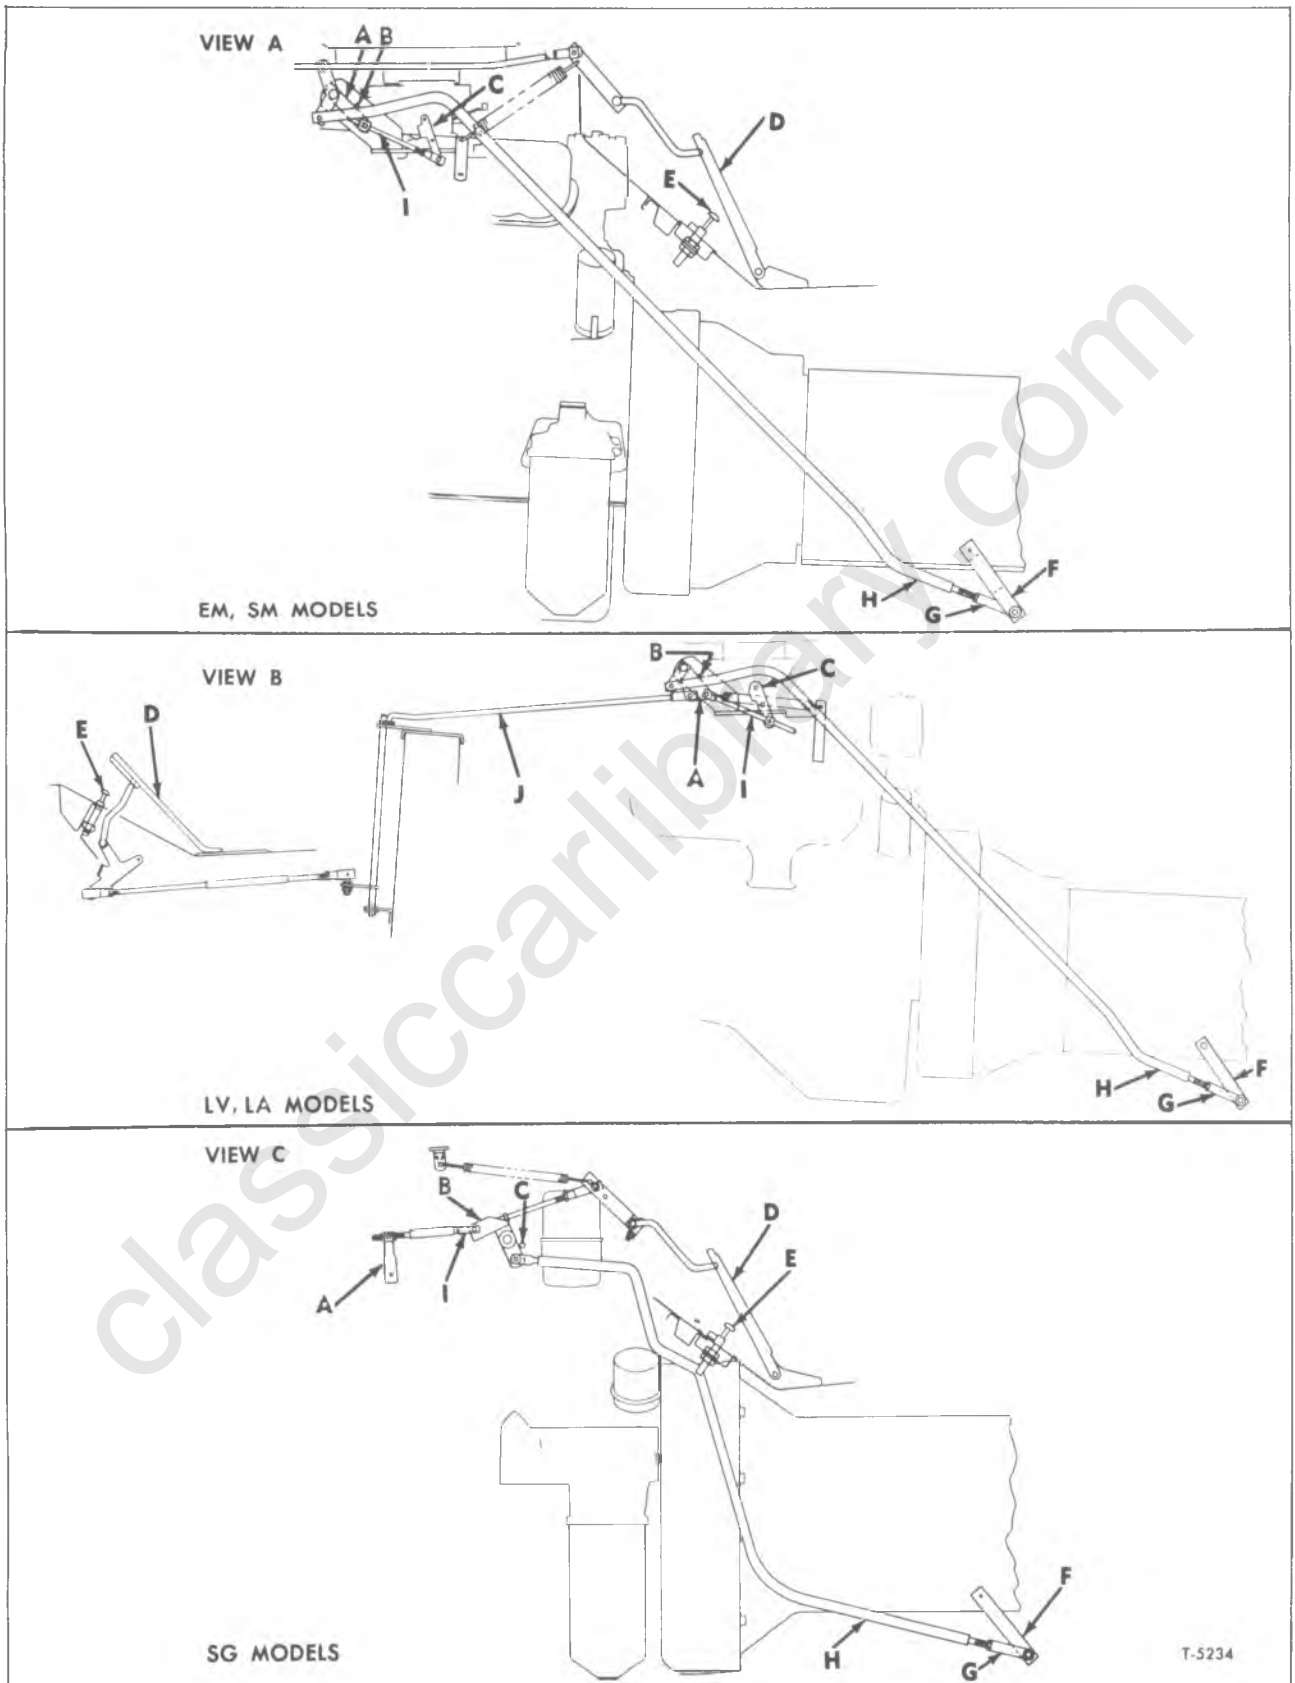

Figure 5—Accelerator and TV Linkage
Accelerator And TV Linkage Adjustment Procedure - Gas Engine Models (Refer to Views A and B, Fig. 5)
2. Disconnect clevis (G) from TV lever (F). Position lever (A) 0.060 inch from stop (B).
3. With carburetor throttle lever (C) at idle position and lever (A) 0.060 inch from stop (B), adjust the swivels on rod (I) to provide free-entry into levers (A) and (C).
4. With carburetor throttle lever (C) at idle position, and TV lever (F) against rear stop (rotated away from engine), adjust clevis (G) on rod (H) for free-entry into lever (F). Then turn clevis (G), to shorten rod, two full turns. Install clevis pin, tighten jam nut and secure clevis (G) to TV lever (F) with cotter pin.
**NOTE:** On tilt cab models, with carburetor throttle lever (C) in idle position, rod (J) should clear radiator support by 1/8-inch. Lengthen rod (J), as necessary.
**IMPORTANT:** Adjustment of the detent button (E) is accomplished by loosening jam nut located at cab floor, rotating detent button to proper height and then retighten jam nut (see fig. 5). With the accelerator pedal depressed to the thru-detent position (detent button (E) - compressed) ample clearance must exist between the pedal and floor, to assure complete movement of the TV linkage to the thru-detent position.
5. With the accelerator pedal (D) just touching detent button (E), the carburetor throttle lever should be in full throttle position. If adjustment is required shorten or lengthen rods between accelerator pedal and carburetor throttle lever and, if necessary, reposition detent button (E) to obtain above conditions.
Accelerator And TV Linkage Adjustment Procedure - Toro-Flow Equipped Models (Refer to View C, Fig. 5)
2. Disconnect clevis (G) from TV lever (F). Position lever (B) 0.060 inch from stop (C).
3. With injection pump control lever (A) at idle position and lever (B) 0.060 inch from stop (C), adjust the swivels on rod (I) to provide free-entry into levers (A) and (B).
4. With injection pump control lever (A) at idle position, and TV lever (F) against rear stop (rotated away from engine), adjust clevis (G) on rod (H) for free-entry into lever (F). Then turn clevis (G), to shorten rod, two full turns. Install clevis pin, tighten jam nut and secure clevis (G) to TV lever (F) with cotter pin.
5. With the accelerator pedal (D) just touching detent button (E), the injection pump control lever should be in full throttle position. If adjustment is required shorten or lengthen rods between accelerator pedal and injection pump throttle lever and, if necessary, reposition detent button (E) to obtain above conditions.
a. To raise shift point, shorten rod (H), by turning clevis (G) one turn at a time until the desired shift point is obtained. Tighten jam nut.
b. To lower shift point, lengthen rod (H) by turning clevis (G) off rod one turn at a time until desired shift point is obtained. Tighten jam nut.
NOTE: Referring to Inset, figure 5, the retarder valve is shown in the "OFF" position. Full travel of valve from "OFF" to "ON" position is 1/2-inch.